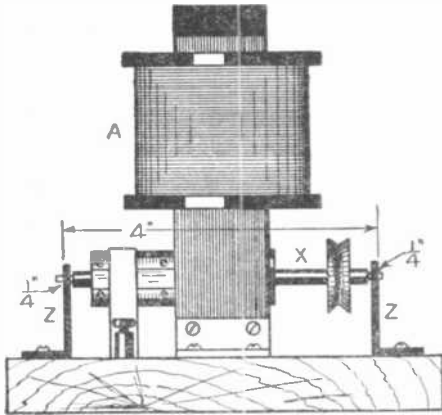
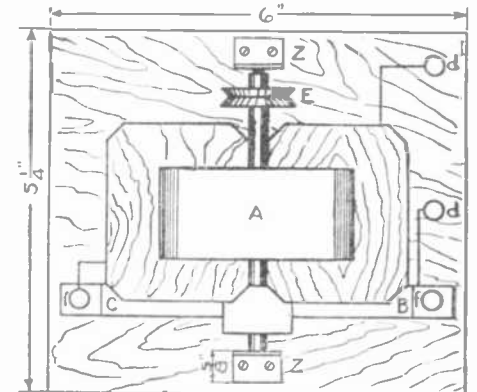

FIG. 25
FIG. 30
The baseboard is 5 inches long, 5 1/4 inches wide and about 3/4 inch thick all of mahogany or walnut, if it can be used, which will give the apparatus an elegant appearance. The constituent parts are now mounted on this base as shown in Figs. 25, 29 and 30, and the magnet (AA) is screwed down to the baseboard by the angles (cc). We can put the bearing standards (Z) for the armature. This must fit accurately in the field of the magnet without touching it. Now the brushes are screwed down as shown, so that one is in contact with the top and the other with the bottom of the commutator, the comb-shaped portions resting thereon; (i) and (i') represent the terminal binding posts. A driving pulley, Fig. 30 (E) is carried by the shaft